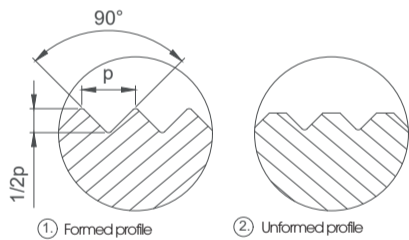

Fig. 7: Different profile pattern
The profile depth is set approx. 1mm behind the chamfer of the workpiece in the X direction and corresponds to approximately the half pitch p (with 90° flank angle). (cf. Fig. 7). After reaching the limit depth, the residence time of the tool should be 3–10 revolutions of the workpiece. Then move in the Z-direction until the desired knurl width is achieved. Then disengage the tool while the spindle is rotating.
The correct profile depth has been reached when the profile is knurled completely (Fig. 7, ref. 1). A new setting takes place when the profile is not completely formed (Fig. 7, ref. 2). Re-adjustment in the profile is possible, because the knurling wheels catch in the existing profile.